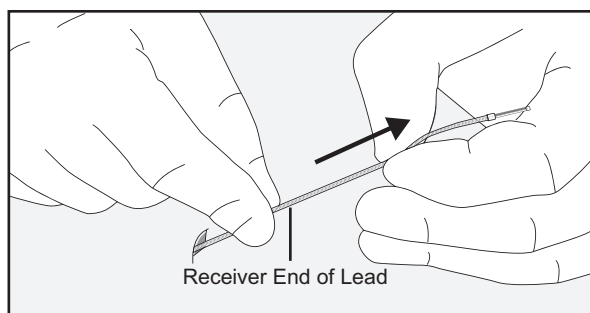

Figure 28: Explant StimRouter Lead
9. If the patient reports a diminished response, then detach the Lead Adapter from the StimRouter Lead, and keep the Lead Adapter in the sterile field. Explant the lead by grasping the lead body as close to the skin as possible. Then, keeping slight but constant pressure on the skin surface, slowly withdraw the lead from the skin along the path of insertion (see Figure 28). Take care not to stretch the lead; stretching could cause the lead to fracture. Repeat the implant procedure using a new StimRouter Lead in Loader. If the lead fractures, then see “Alternative Explant Procedure” section.